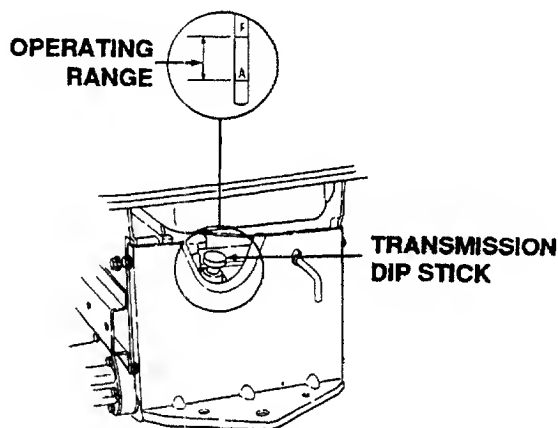

Figure 21
Check the oil level of the transmission case before each use to see that it is filled to the correct level. Before checking the transmission oil level, clean the area around the oil fill plug/dipstick to prevent debris from entering the transmission case. Always keep the oil level between the "FULL" and the "ADD" marks on the dipstick. (See Figure 21.) When checking the oil level, the dipstick must be withdrawn and wiped clean, then inserted all the way and withdrawn for a true reading.
3. Remove the oil fill plug/dipstick from oil fill port and SLOWLY pour oil into the oil fill port. Fill the transmission case until the oil level reaches the "FULL" mark on the dipstick. (Refer to Figure 21.)
6. Remove the oil fill plug/dipstick from oil fill port and SLOWLY pour oil into the oil fill port. Fill the transmission case until the oil level reaches the "FULL" mark on the dipstick. (Refer to Figure 21.)